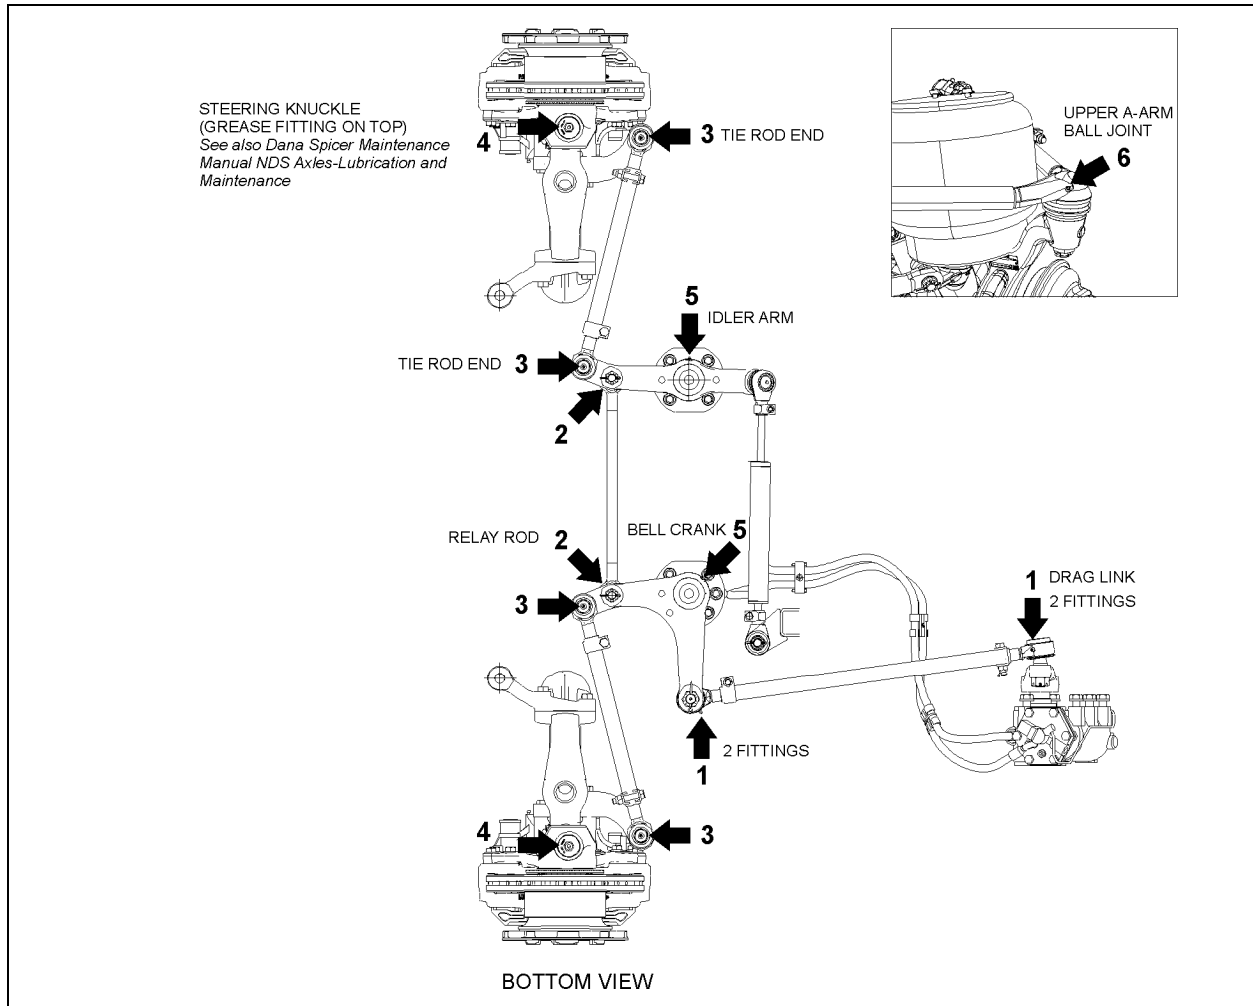

FIGURE 19: LUBRICATION FITTINGS LOCATION
11. Unscrew nut until bell crank or idler arm starts to turn with the application of 1 to 3 lbs force load as shown on figure 19.